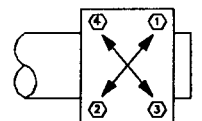

Figure 5
3. Mount luminaire by holding it approximately level and snug up pipe clamp nuts (4-5 foot-pounds). Finish tightening clamp nuts as follows: (See Figure 5) Tighten each nut one turn at a time alternating in a diagonal pattern. Correct torque may be achieved by turning each nut 2-3 full turns past “snug” position or by tightening nuts to 10-12 foot-pounds, whichever comes first.